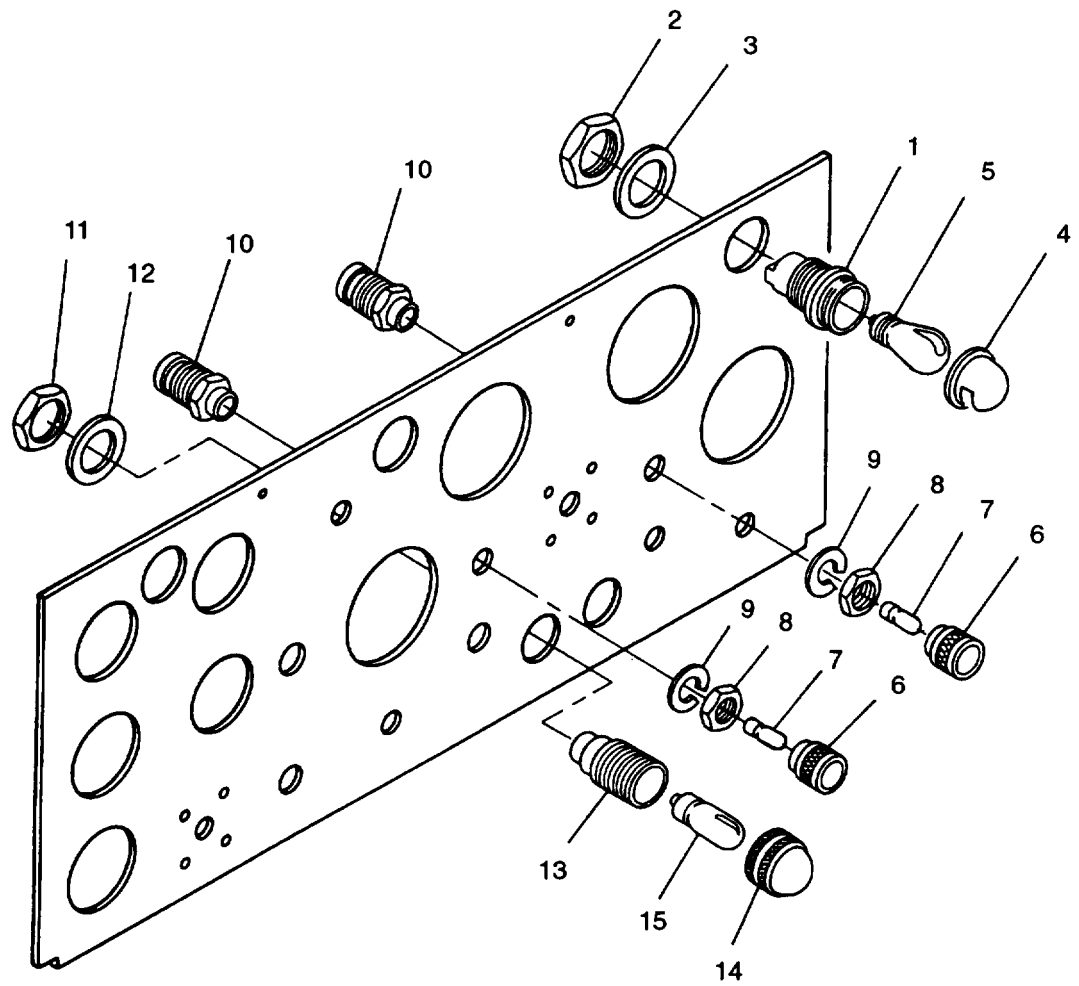

FIGURE 2-11. Control Panel Lights
- d. Tag and disconnect panel light (1, FIGURE 2-11) electrical leads.
- e. Remove nut (2) and washer (3).
- f. Remove panel light (1) from control panel
- a. Remove panel light directional cap (4, FIGURE 2-11) from panel light housing (1).
- b. Remove panel light bulb (5).
- a. Install panel light bulb (5, FIGURE 2-11) into panel light housing (1).
- b. Install panel light directional cap (4).
- a. Insert panel light (1, FIGURE 2-11) into control panel.
- b. Install washer (3) and nut (2).
- b. Press in lamp holders (6, FIGURE 2-11) and check that lamps are lit.
- c. If lamp (7) fails to light perform steps d through g.
- e. Set multimeter for DC volts and check for voltage at terminals 1 and 3 on receptacle (10).
- d. Tag and disconnect electrical leads to light receptacles (10, FIGURE 2-11).
- e. Remove lamp holders (6), nuts (8), lockwashers (9), and receptacles (10) from control panel.
- f. If necessary, remove lamps (7) from lamp holders (6).
- a. Install press to test light receptacles (10, FIGURE 2-11) in control panel with lockwashers (9) and nuts (8).
- b. If removed, install lamps (7) in lamp holders (6).
- c. Install lamp holders (6) on receptacles (10).
- d. Tag and disconnect synchronizing lights (13, FIGURE 2-11) electrical connections.
- e. Remove nuts (11) and washers (12).
- f. Remove synchronizing lights (13) from control panel.
- g. Unscrew lenses (14) and remove lamps(15) from light receptacles (13).
- a. Insert synchronizing lights (13, FIGURE 2-11) into control panel.
- b. Install washers (12) and nuts (11).
- e. Install lamps (15) and screw lenses (14) on light receptacles (13).